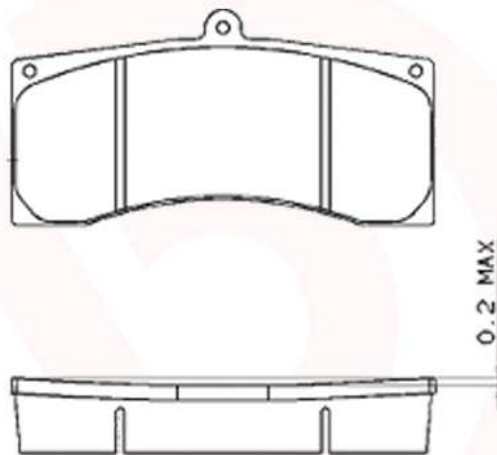

Fig. 10
b. Pad radial taper wear difference must not exceed 1 mm MAX, bearing in mind that the direction of wears of the same caliper must be according to what shown on the Fig.10. Defective or excessively worn pads must be changed.